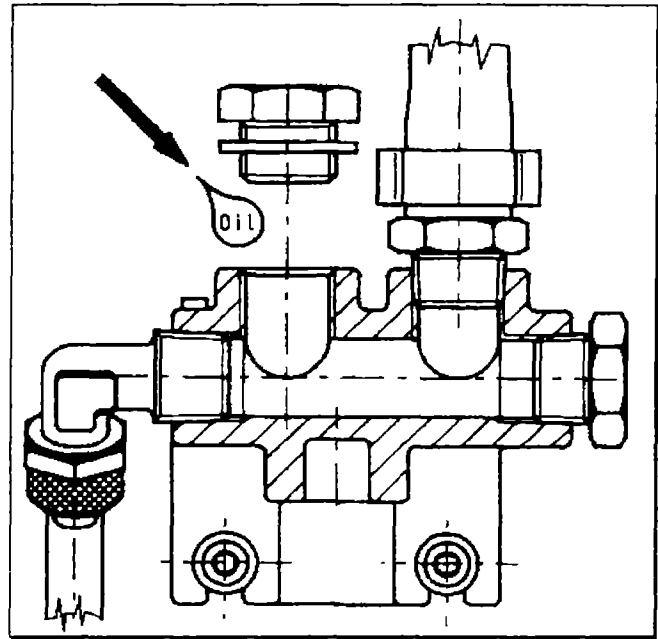

Fig.30
- * Open the lubrication cap and drop a small quantity of oil (2-3 cc) (Fig.30). Use suggested oils listed above.